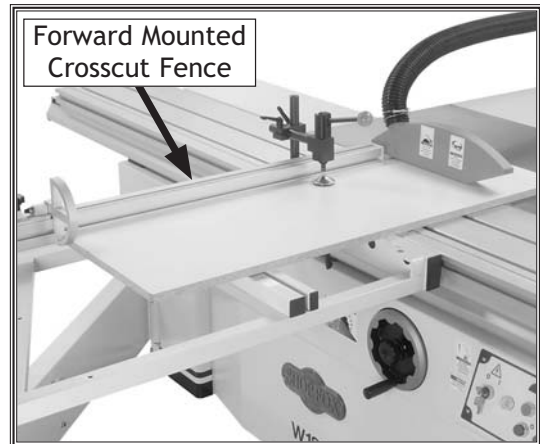

Figure 72. Crosscut fence mounted in forward position.
This saw can crosscut full size panels with the crosscut fence in the forward or rear position, although it is easier to load full size panels with the crosscut fence mounted in the forward position (see **Figure 72**).
4. Load the workpiece onto the table saw (**Figure 72**).